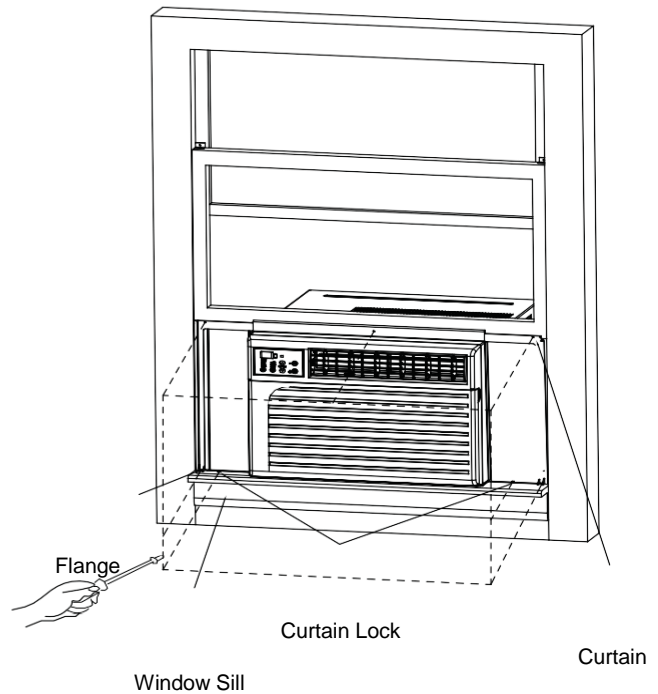

Fig. 13
1. Secure the left and right flanges on the lower end sides of the panel with long screws. (See Fig. 13)